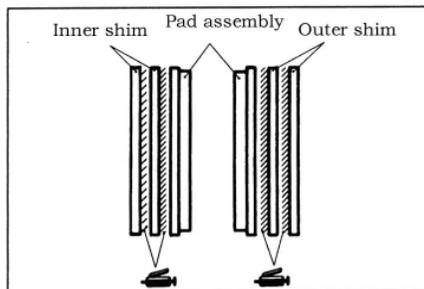

Fig. 16-19
(5) Measure hub torque with pad removed in order to measure brake drag torque ,after pad installation.
(6) Apply repair kit grease to the attaching faces of pad and inner shim and to the attaching faces of inner and outer shims. Apply so as not to spread it out from the edge of shim (see Fig. 16-19)。